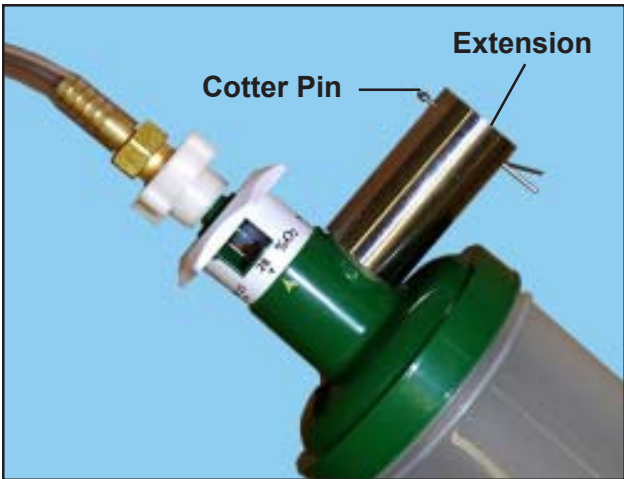

Figure 7. Nebulizer
6. On the nebulizer extension, use a needle-nose pliers to squeeze the ends of the cotter pin together and remove pin from the extension (Figure 7).
8. Place the nebulizer in the ice tray with the extension through the opening in the door (Figures 7 and 8).